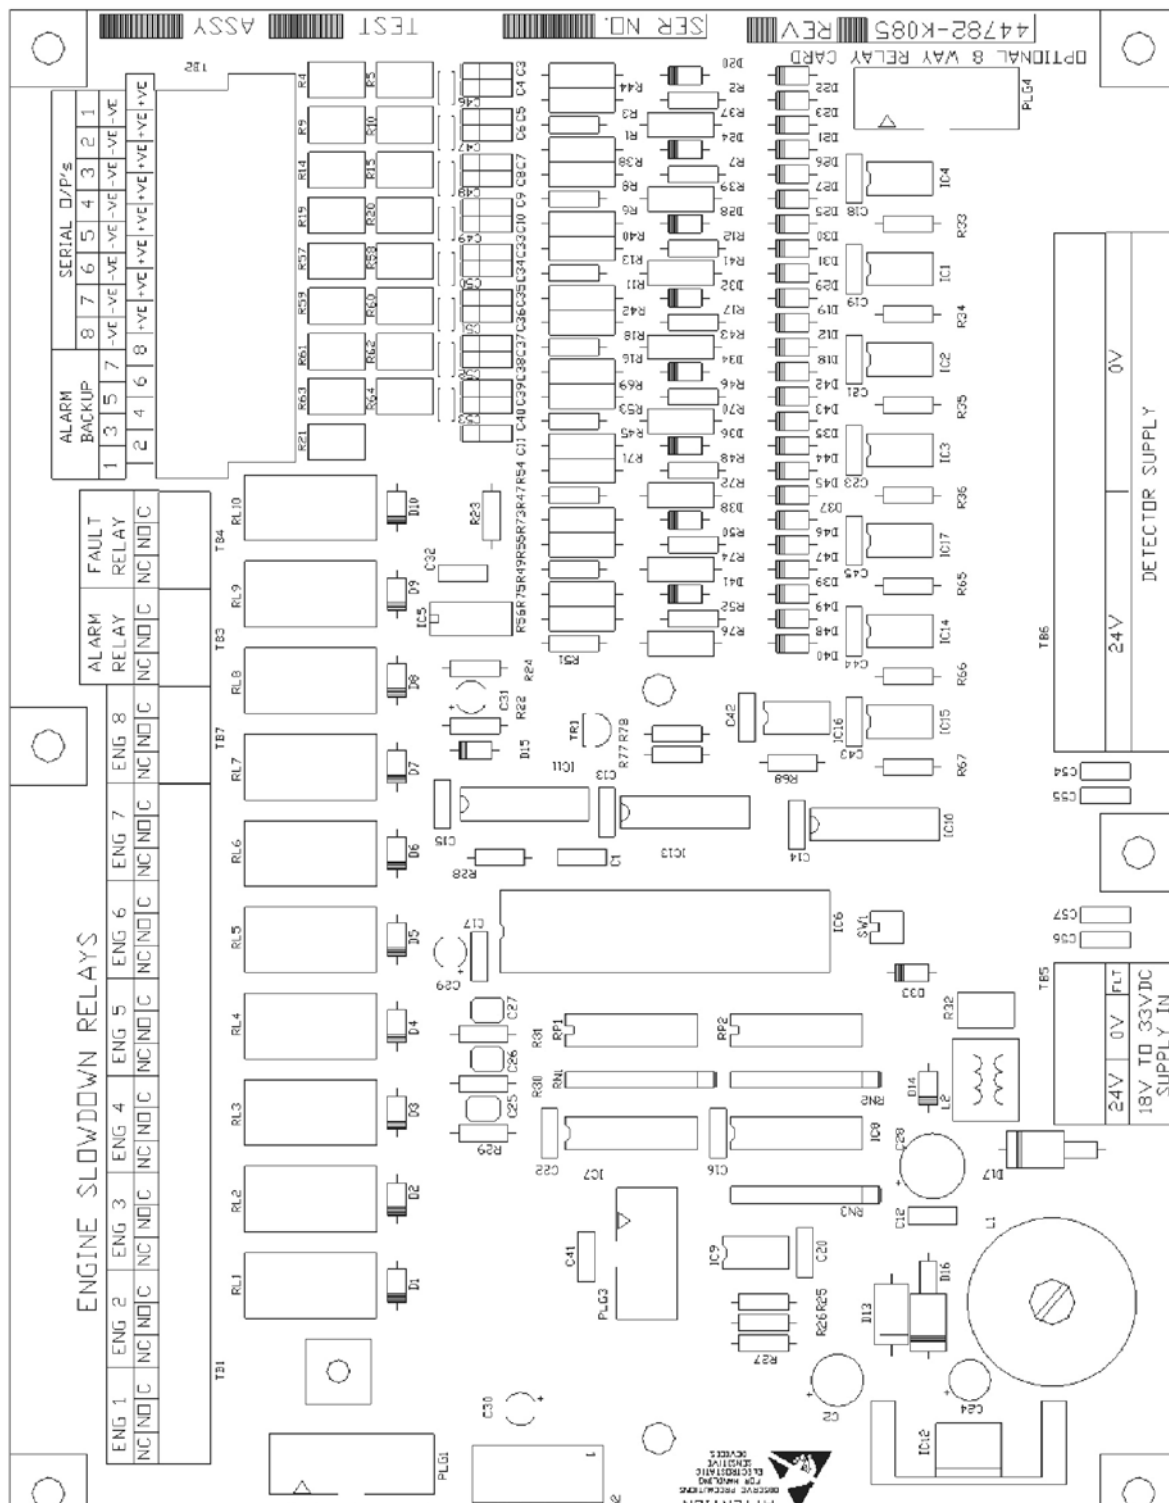

Figure 42: Interface PCB
3.6.3 Interface PCB Replacement - Part No. 44782-K085 (refer to Figure 42)